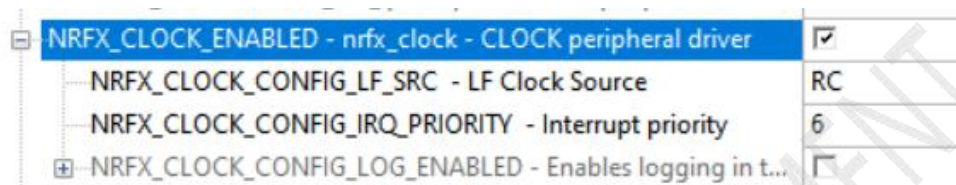

Figure 5.1: NRFX\_CLOCK\_ENABLED
- Unfold “nRF\_Drivers”-> “NRFX\_CLOCK\_ENABLED”Please modify as shown in Figure 5.1: